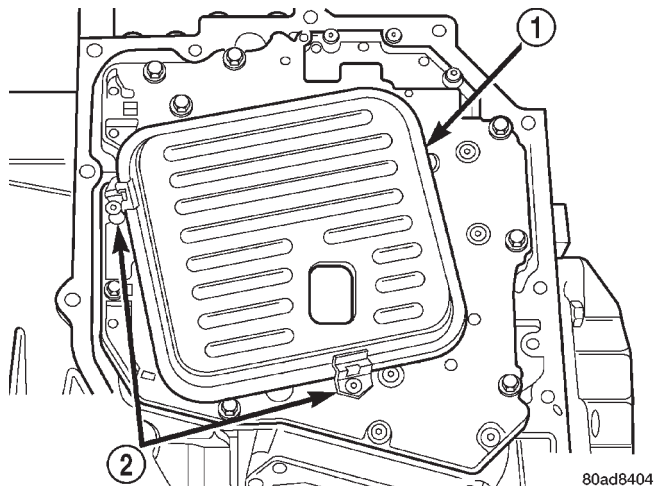

Fig. 97 Transaxle Oil Filter
(6) Remove oil filter from valve body (Fig. 97). It is held in place by two clips.
(3) Install transaxle oil filter (Fig. 97).